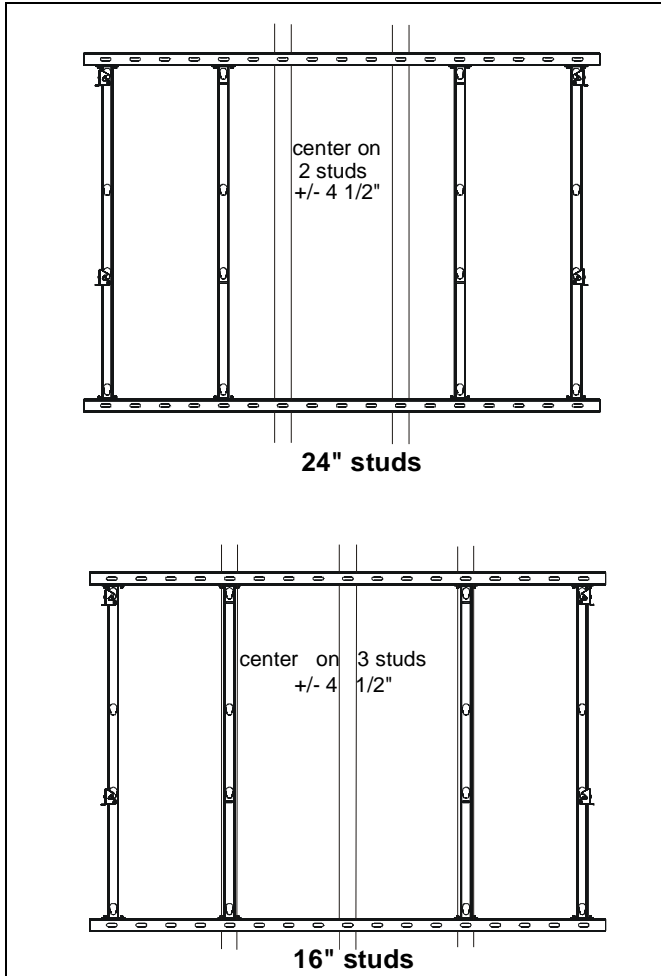

Figure 4
2. Determine mounting slots to be used for installation. (See Note below and Figure 4)
NOTE: If mounting to center of 24" studs, slots used must be centered +/- 4 1/2". For 16" studs, slots used must be centered over three studs +/- 4 1/2". (See Figure 4)